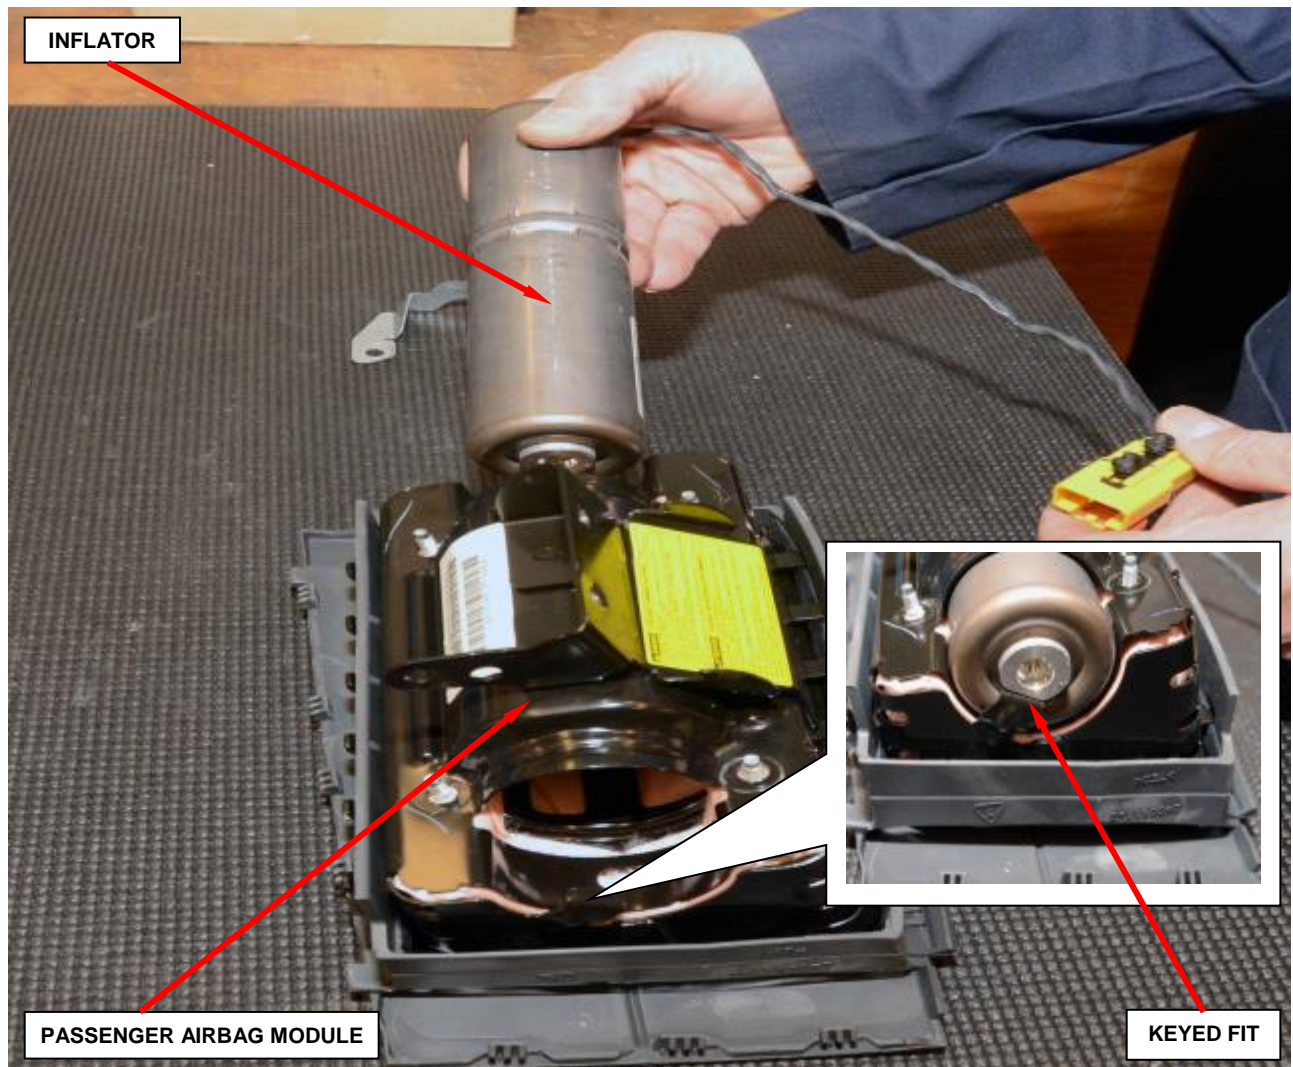

Figure 98 – Passenger Inflator Installation
- g. Slide the new inflator into the passenger airbag module (Figure 98).
NOTE: The inflator is keyed to fit into the housing (Figure 98).